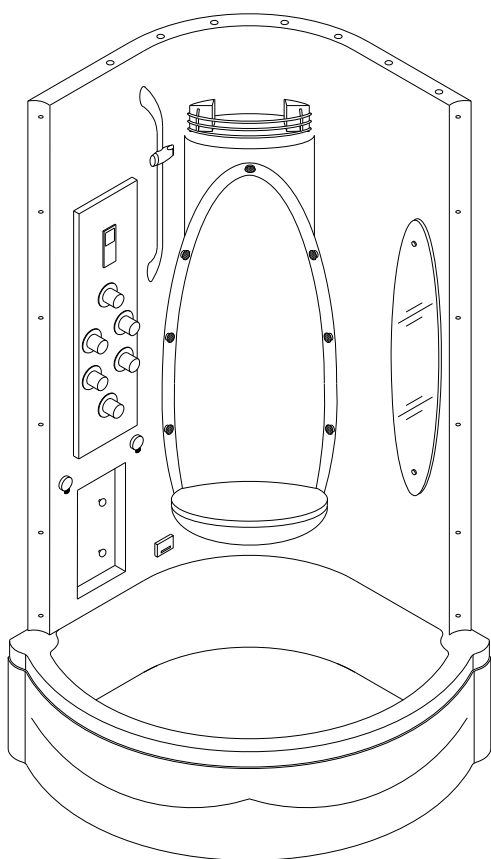

Fig 7
8. Move the tray out. Clean the surface of the tray threshold and apply a layer of silicone on to the edge; put the back panel onto the tray and fix them with **Bolt M6x20 with nut, washer (13)**. See Fig 7 and Fig 8 for details.